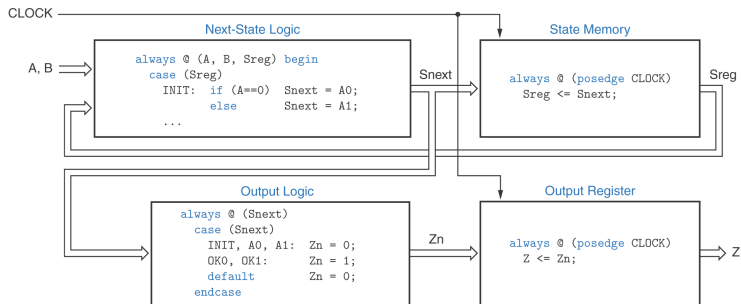

Figure 3: Verilog state machine with pipelined outputs.
- We can convert the machine to have pipelined outputs with the structure shown in Fig. 3